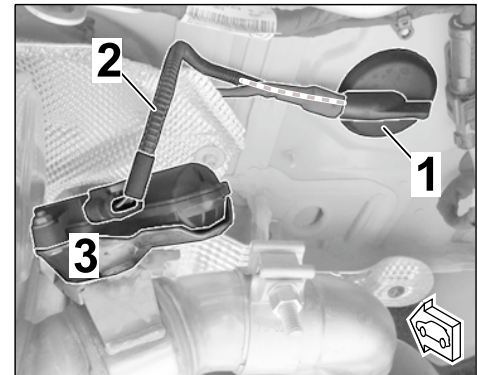

Figure 19
- 3.3.4 **ONLY** if a grommet with several lines is installed on the underside (including an exhaust flap branch (left/right of the standard rear silencer \Rightarrow *Figure 19*):